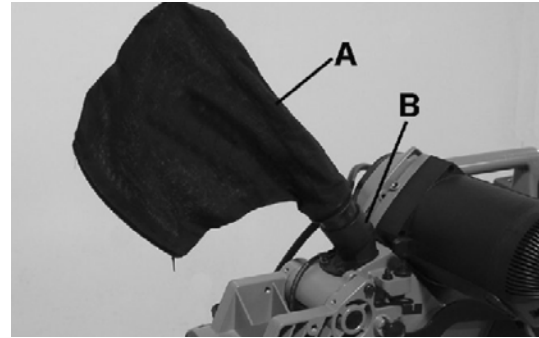

Fig. 6: Dust bag
Step 2: Pull out the locking knob (A) on the left side of the saw head approx. 1 cm to lock the saw head, turn it 90° and let it snap back into the unlocked position.
Step 5: Insert the dust bag (Pos. A, Fig. 6) into the receptacle (Pos. B, Fig. 6) on the back of the saw.